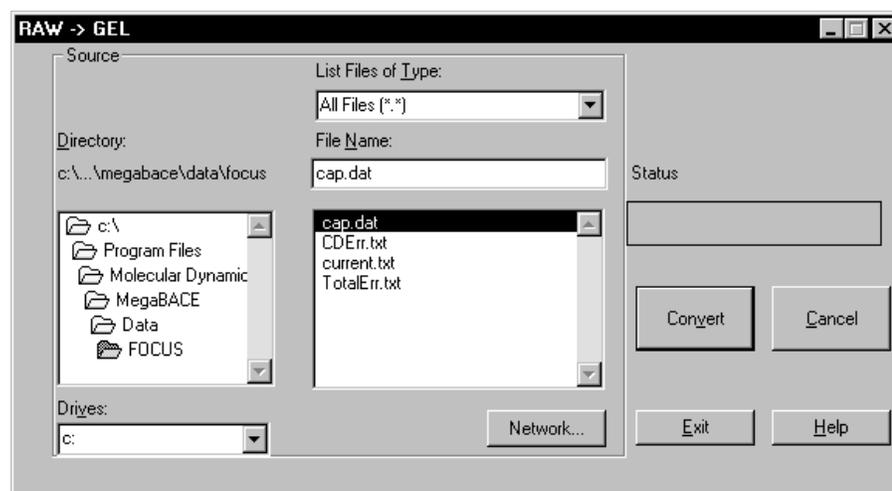

Figure 19-11. The Raw-to-Gel window for converting a .dat file to a .gel file.
1. In the MegaBACE folder on the Windows desktop, double-click the **Raw-to-Gel Conversion** icon. The Raw-to-Gel window opens and displays a list of folders (figure 19-11).